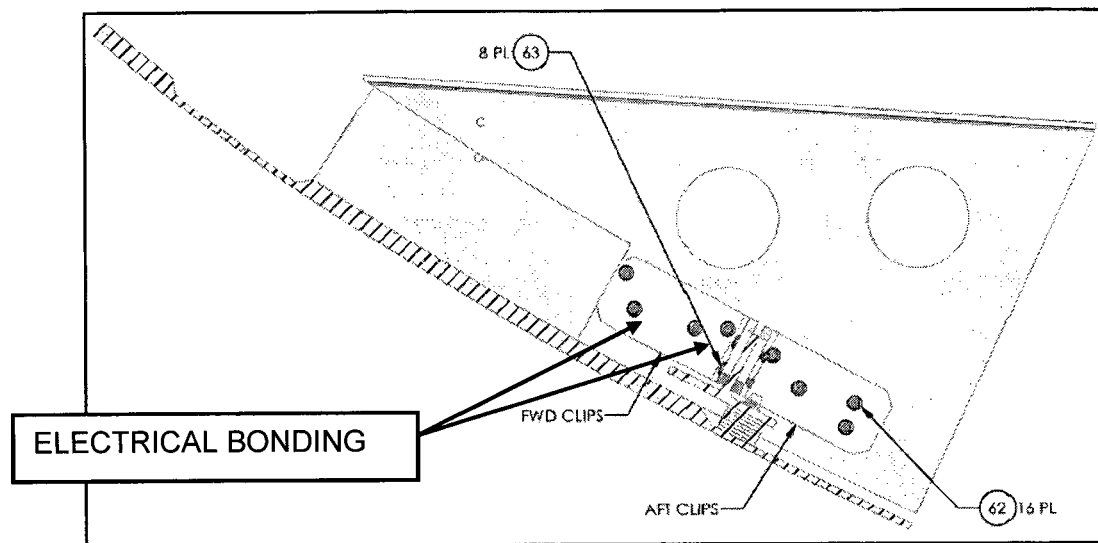

Figure 5.9: Rivet Locations on Airframe for Aft Intercoastal Assembly
- 5.17 Using Magnobond, bond the forward Clips to the airframe, aligning the rivet holes and cleco in place. Apply Magnobond to the aft Clip/airframe faying surface and cleco the aft Clips and Tee into position, making sure all rivet holes are aligned. Prepare riveted connections as indicated in as shown in Figure 5.9 (see Appendix A). Install Rivets (F/N 62 & 63).
Parts List for Figure 5.9: